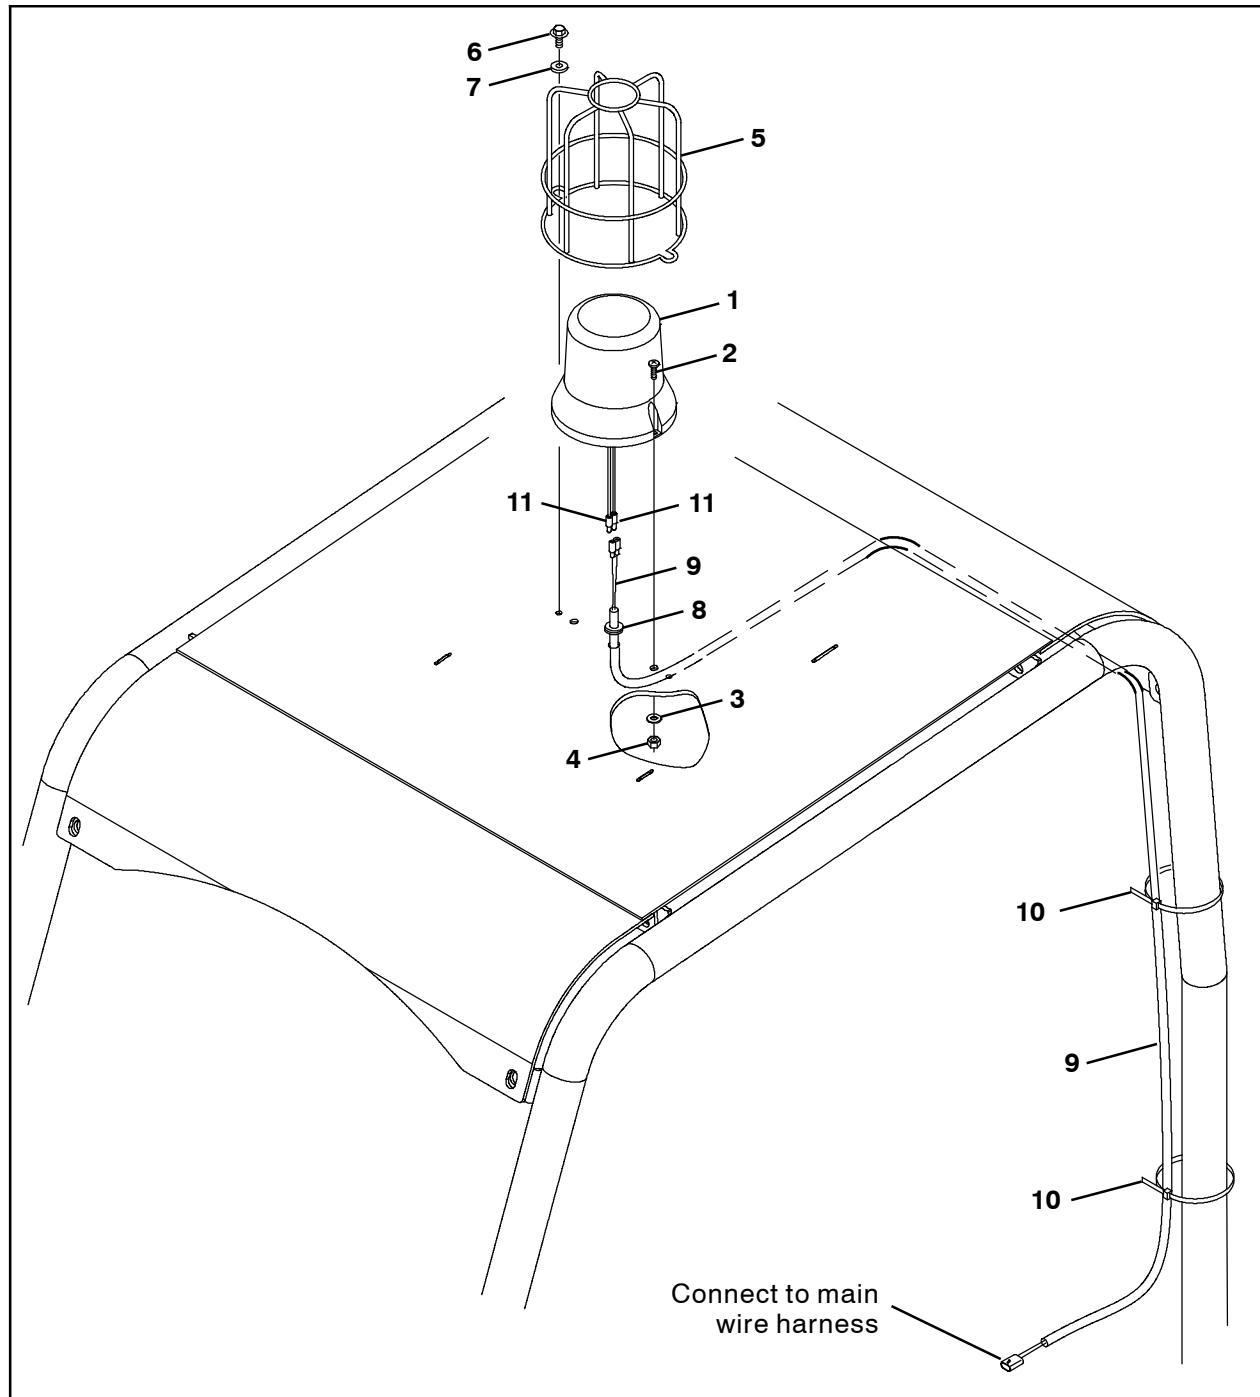
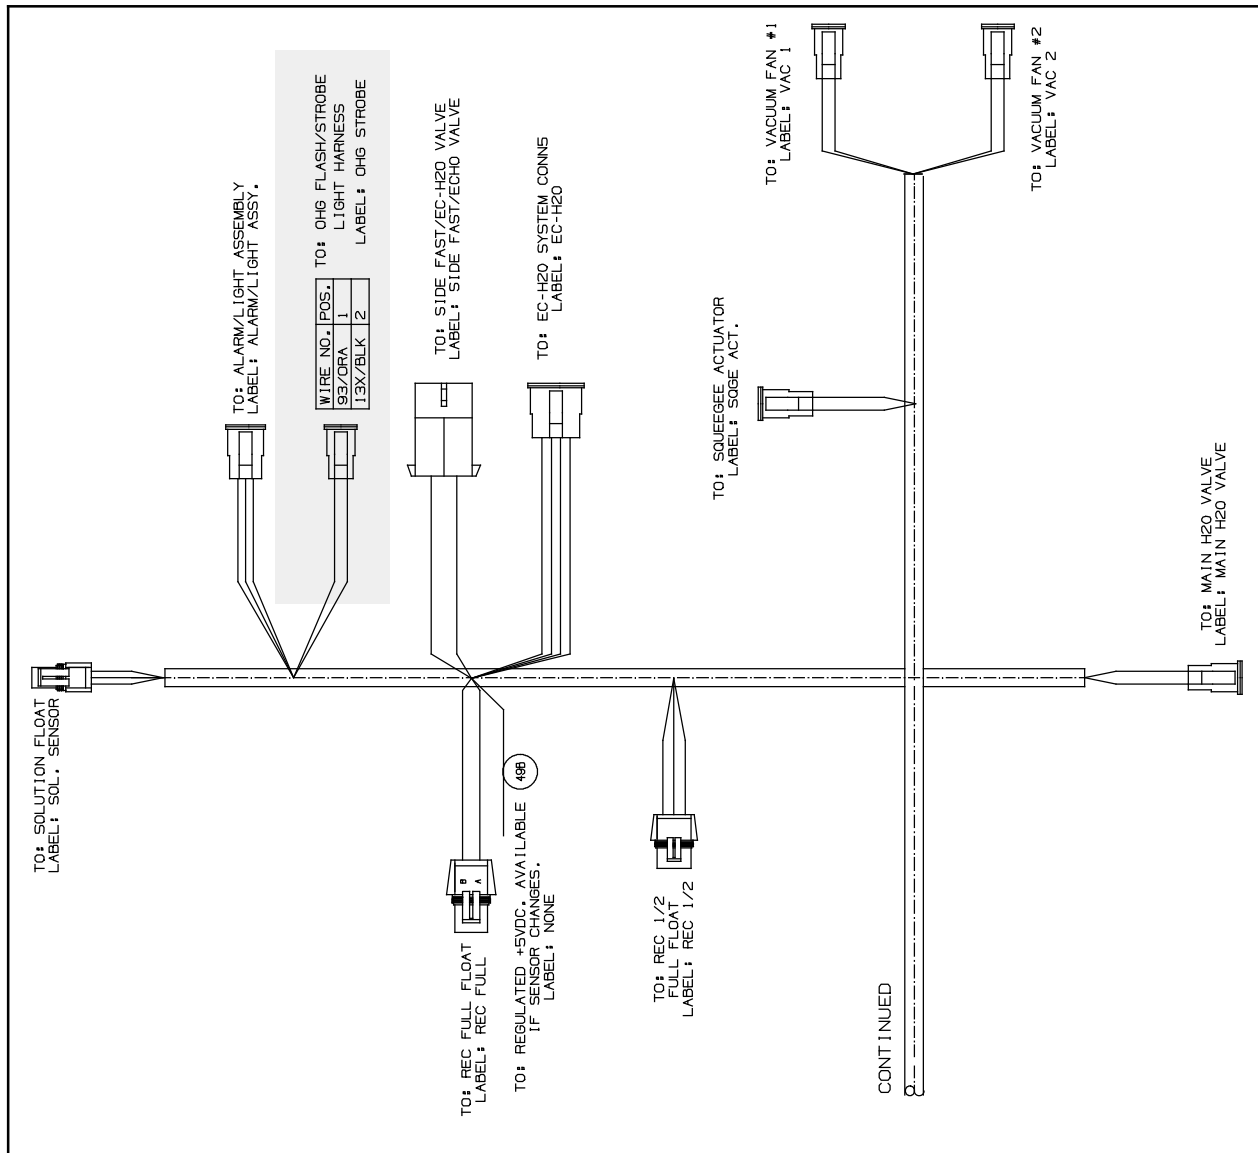

FIG. 2
FIG. 4
6. Crimp the bullet terminals (11) onto the strobe light (1) wires. (Fig. 2)
7. Insert the rubber grommet (8) into the hole in the overhead guard. (Fig. 2)
8. Route the strobe light (1) wires down through the rubber grommet (8) installed in the overhead guard. (Fig. 2)
9. Use two M5 pan screws (2), two flat washers (3), and two hex nuts (4) to install the strobe light (1) onto the overhead guard. (Fig. 2)
10. Use two M6 hex screws (6) and two flat washers (7) to install the light guard (5) onto the overhead guard. (Fig. 2)
11. Connect the overhead guard light wire harness (9) to the main wire harness. (Fig. 2 / Fig. 4)
12. Route the overhead guard light wire harness (9) up to the strobe light (1) and connect the harness to the strobe light. (Fig. 2 / Fig. 4)
14. Use the larger cable ties (10) to secure the overhead guard light wire harness (9) to the overhead guard leg. (Fig. 2)